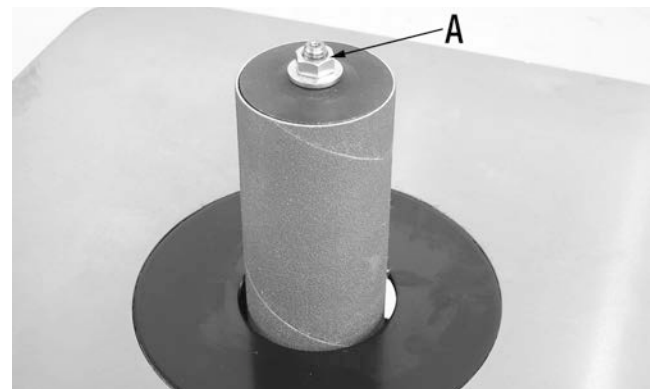

FIGURE 6
3. For the 1-1/2" and 2" drum, slide the corresponding sanding sleeve onto the drum. Using the supplied 12mm open end wrench, tighten the nut (A) Fig.6 on the top of the drum by turning counterclockwise (reverse thread), this will secure the sanding sleeve. Pull on the sanding sleeve to make sure it is properly secured to the drum, if not tighten nut (A) another 1/2 turn.